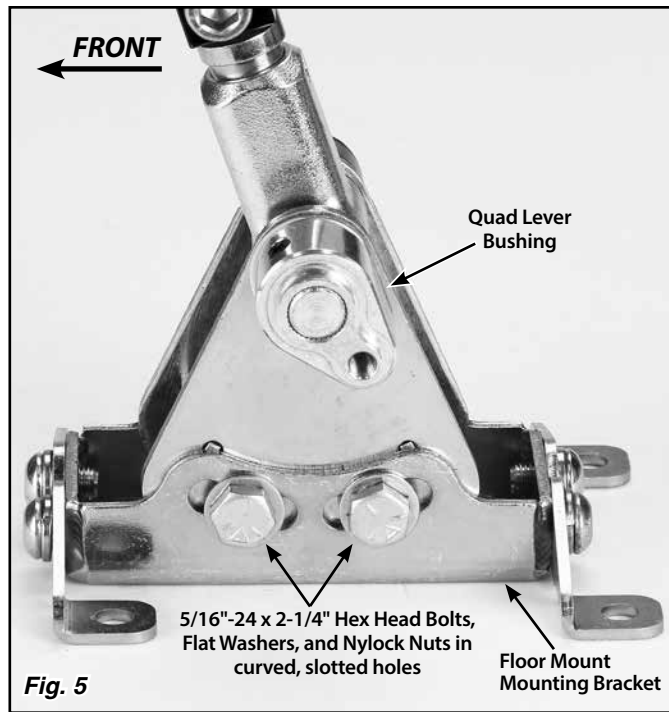

Fig. 5
**All:** Make sure the two 5/16"-24 x 2-1/4" hex head bolts and nylock nuts in the curved, slotted holes in the floor mount mounting bracket are tight. Place the Shifter in the desired location on the vehicle's floor. Make sure the Shifter Lever will not interfere with the dash when in Park, or with the seat when in low gear. The shifter assembly may be tilted forward or backward if needed by loosening the nylock nuts on the two 5/16"-24 x 2-1/4" hex head bolts in the curved, slotted holes in the floor mount mounting bracket. Retighten the nylock nuts once you have the shifter assembly at the angle you want. **Fig. 5**